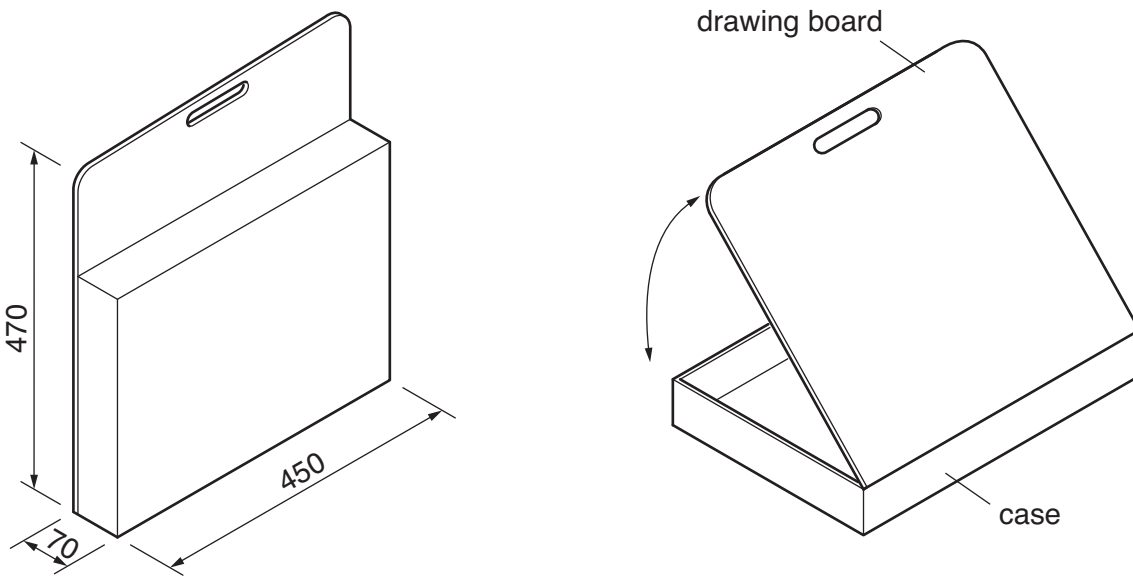

Fig. 7
- 5 Fig. 7 shows views of an incomplete design for a drawing equipment case and drawing board. The case and drawing board are made from 15 mm thick manufactured board.